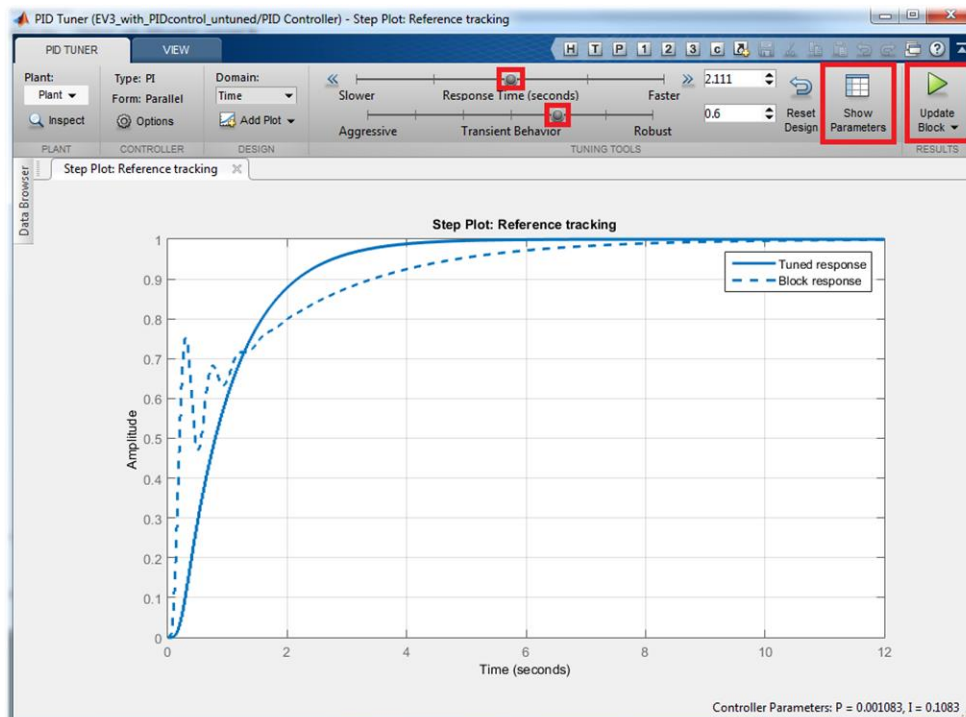

Figure 43 – PID Tuner interface
When the “Tune” button is selected, it brings up the PID Tuner interface (Figure 43) and the following actions occur:
7. Select the 'Show Parameters' button on top-right of the PID Tuner (Figure 43) to observe how the tuned controller parameters and response characteristics (like rise time, overshoot etc.) compare against the original block parameters. (Figure 44)
8. Select the "Update Block" button on the top-right of the PID Tuner interface (see Figure 43) to update the PID Controller block with the tuned controller gains.